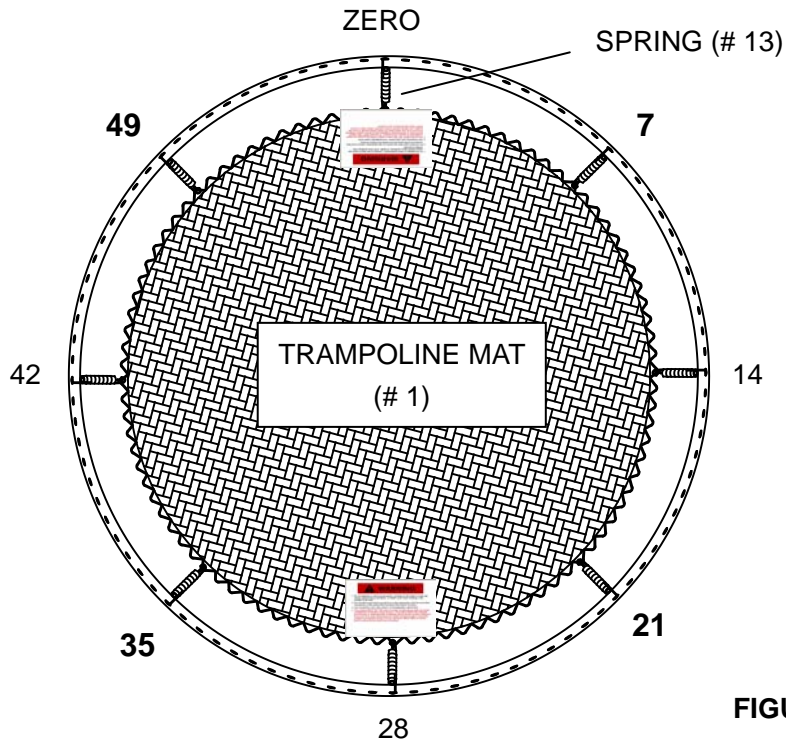

FIGURE 8
C. Continue to attach Springs in the same manner, ensuring even distribution of tension by attaching springs on opposite sides of the mat/frame in an alternating manner, i.e. 7 then 35, 49 then 21, etc as shown in FIGURE 8.